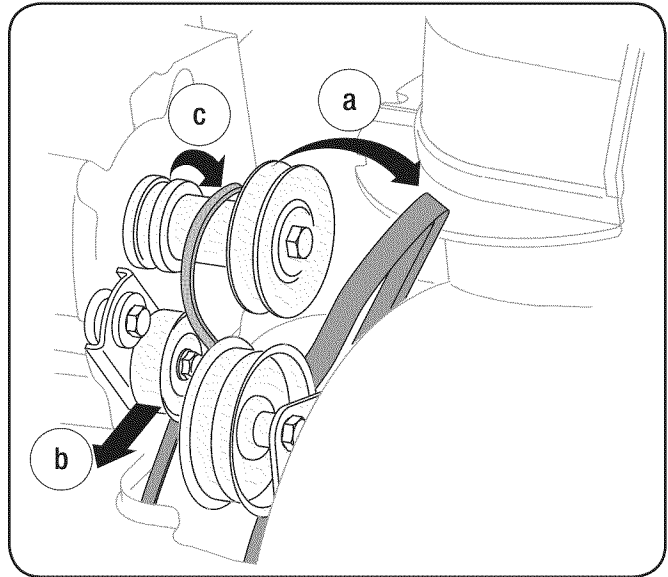

Figure 7-6
- Remove the belt as follows. See Fig. 7-6.: